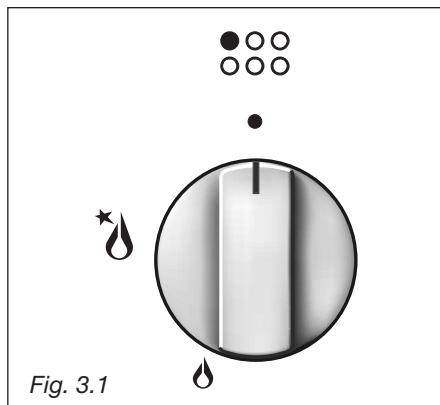
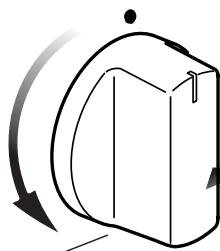

Fig. 3.1
Fig. 3.2
- 1) Lightly press and turn the knob anti-clockwise, and position the knob indicator to the symbol 🔥 printed on the control panel (fig. 3.2).
- 1) Press in the corresponding knob and turn counter-clockwise (fig. 3.2) to the full flame position marked by the  symbol (fig. 3.1) and hold the knob in until the flame has been lit.